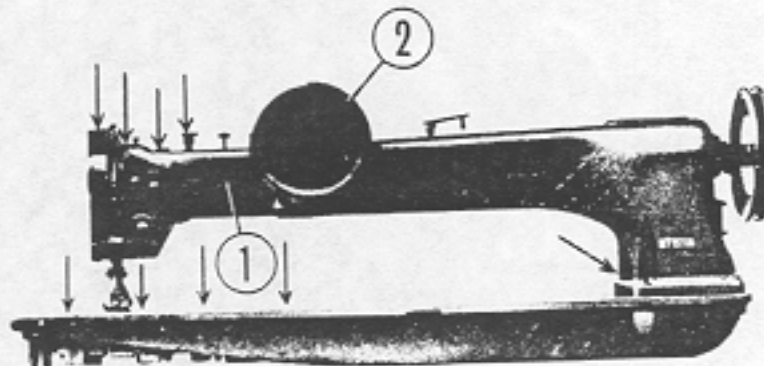

Fig. 1
To maintain a smooth running of the machine and also to prevent the depreciation of all frictional parts, always apply sufficient amount of JUKI Defrix Oil. When the machine is to be used continuously, oil all parts over 2 times every day. Oil should be applied at each of the places designated by arrows in Figs. 1, 2, 3 and 4.
When the length of stitching is set at "0" and if the relative position of the vibrating presser bar and the presser bar is bad, remove the side plate (Fig. 1 ①), loosen the set screw in the inside of the needle bar frame rocker shaft crank and by fixing the clearance between the presser bar and the vibrating presser bar at 17 m/m(43/64"), securely tighten the screw.